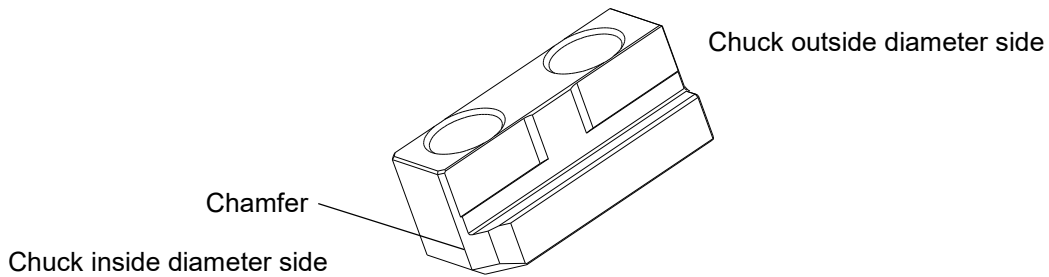

Figure 11-1 Tnut-Plus
A Tnut-Plus as shown in Figure 11-1 is provided for HRS08 chucks as an option.
**Mount the Tnut-Plus with the chamfer side facing the chuck inside diameter side. (See Figure 11-1)**